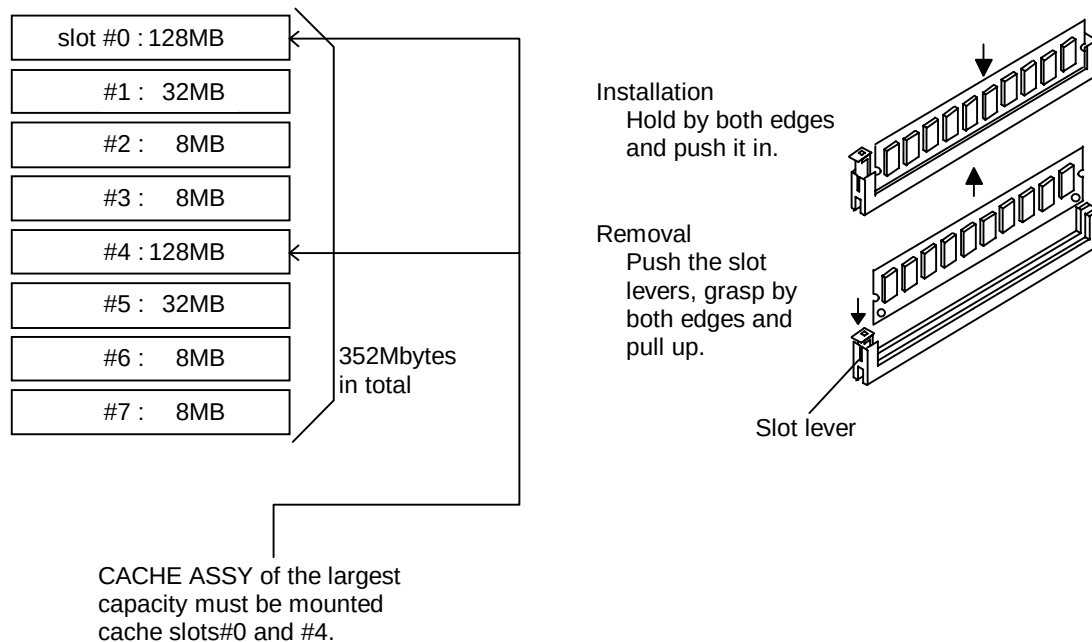

Figure 3.2.7 Installing CACHE ASSY
3.2.5 Installing CACHE ASSY (See Figure 3.2.7 and Figure 3.2.8.)